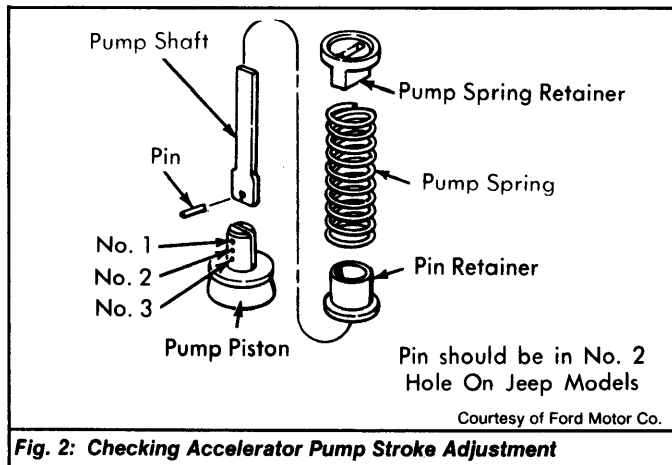

Fig. 2: Checking Accelerator Pump Stroke Adjustment
6) Accelerator pump also has adjustment holes at pump piston for stroke adjustment. To check for proper assembly, remove and invert air horn. Disconnect accelerator pump operating arm by holding down on spring and sliding arm out of shaft slot. Disassemble spring and nylon keeper that retains adjustment pin. If pin is not in specified hole, correct pin position and reverse disassembly procedure. See Fig. 2.